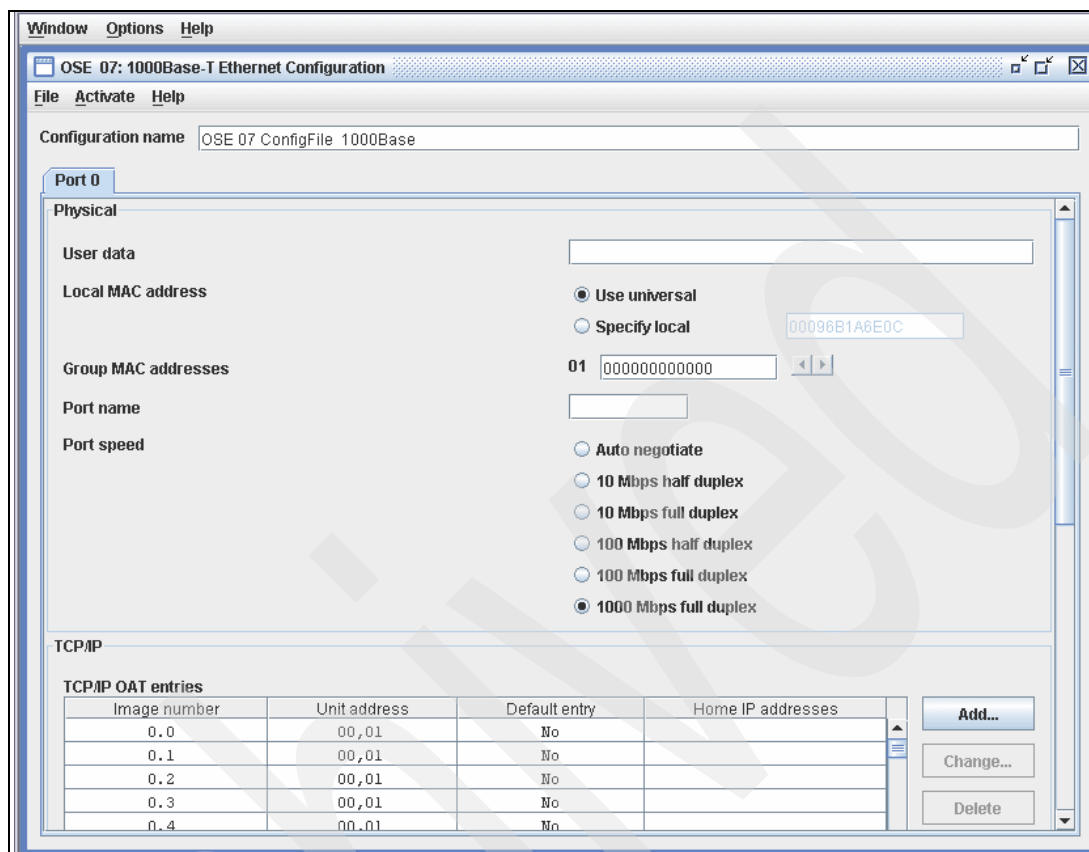

Figure 4-19 OSA/SF Workstation Interface - Current configuration
- The CHPID configuration panel is displayed again, now with the current OSA CHPID configuration information. Fill in the Configuration name (Figure 4-19).